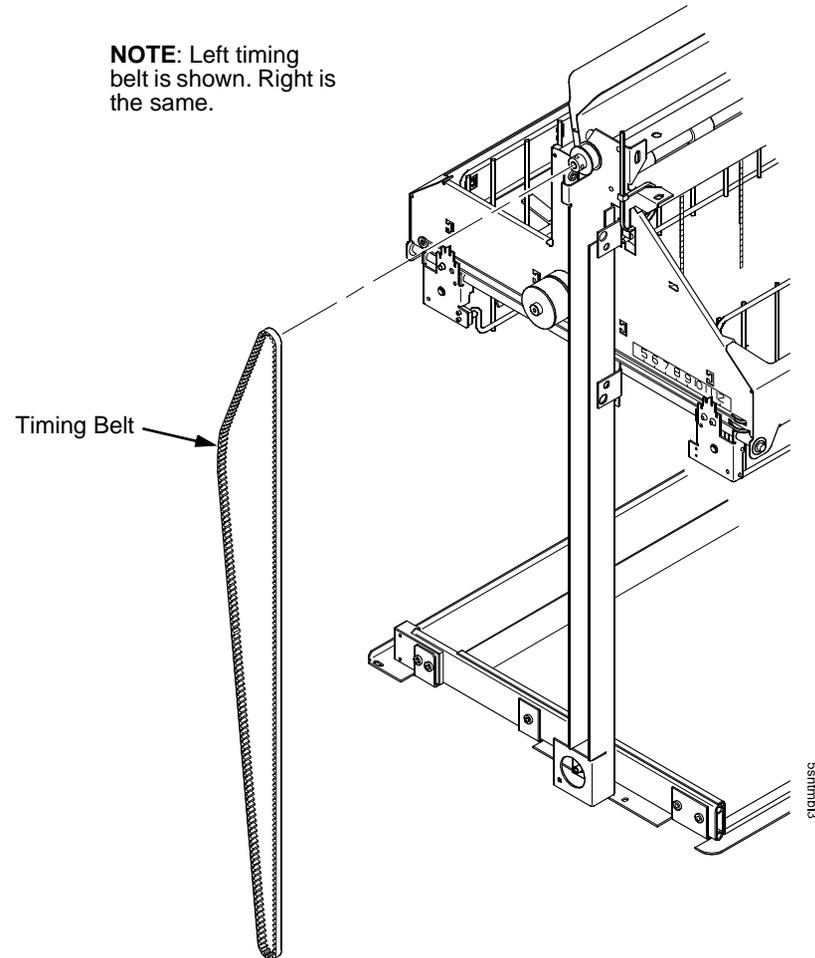

Figure 106. Removing the Timing Belt
8. Remove the timing belt by working it around the vertical rail and constant force spring. (Figure 106.)